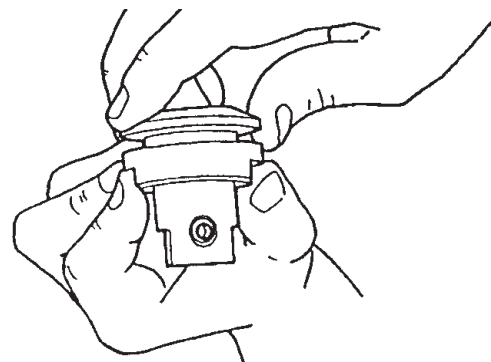

Figure B-59a
17. Loosen the base lock (2). Firmly grasp the way tubes and lower the headstock into the horizontal position, then engage the head rest.
- a. Remove the arbor nut by turning it clockwise, as seen in Figure B-59a. Hold the arbor with the threaded part pointing to the left.